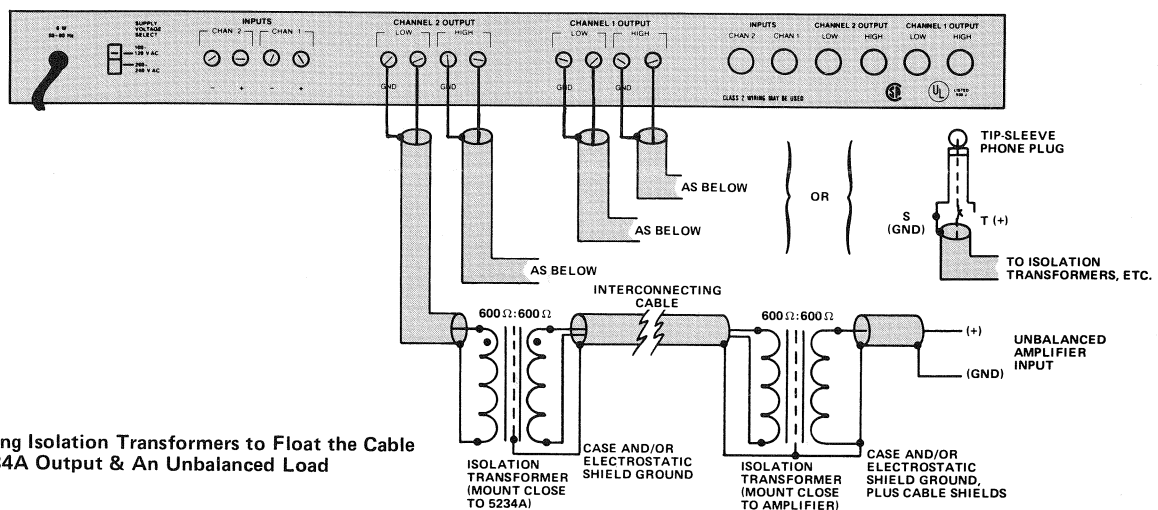

Figure 9 — Using Isolation Transformers to Float the Cable Between a 5234A Output & An Unbalanced Load
2. Figures 9, 10 & 11 illustrate balanced or floating input and output connections. Figures 18 through 20 illustrate wiring for typical installations.